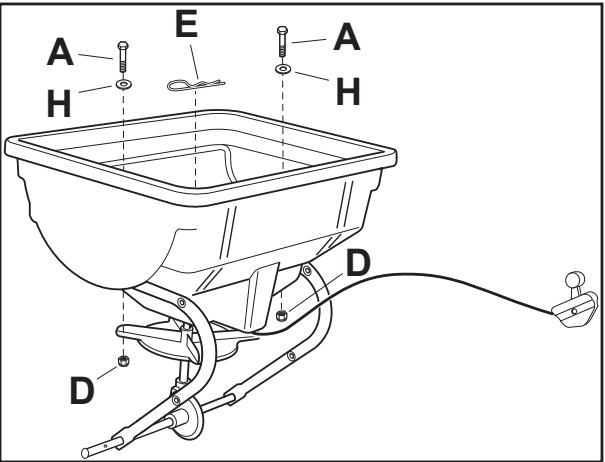

Figure 4
STEP 4 (SEE FIGURE 4): Install the hopper onto the frame assembly. Placing the spinner shaft through the flow plate and hopper. Install the hair cotter pin (E) into the hole on the spinner shaft.